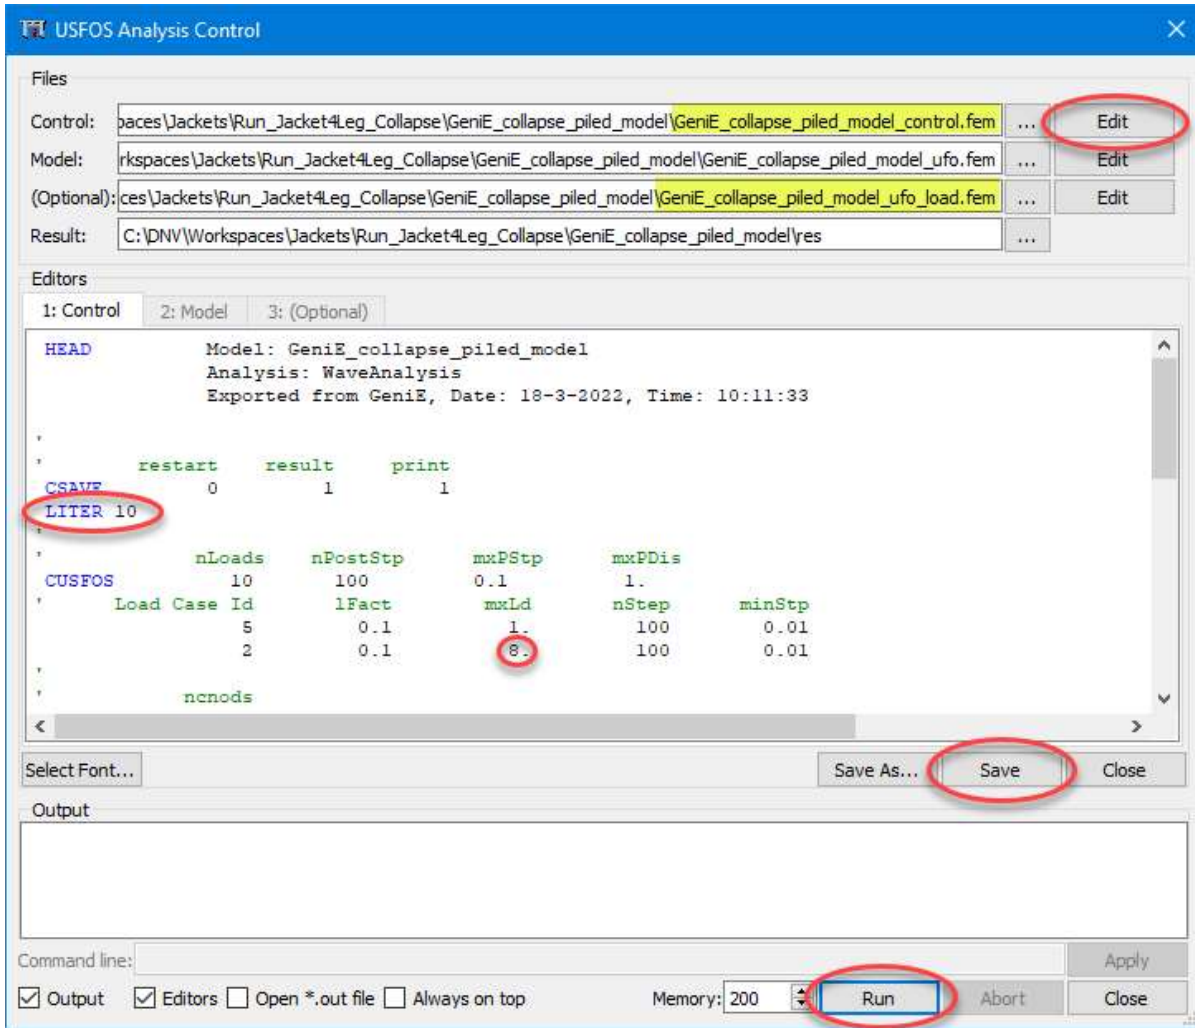

Figure 3-2 Select files and increase the wave load factor to force collapse
- Change mxLd on the CUSFOS command for the wave (load case id 2) to 8 as shown in **Figure 3-2**. This somewhat unrealistic factor for the wave load is set high to force collapse. You can also set this to 0 to force collapse.